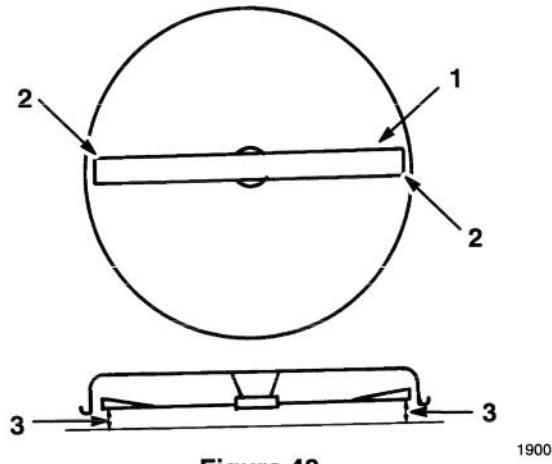

Figure 48
4. Carefully rotate blade(s) side to side (Fig. 48). Measure between the outside cutting edges and the flat surface (Fig. 48). If both measurements are not within  $3/16"$  (4.762mm), an adjustment is required; refer to steps 5 and 6.